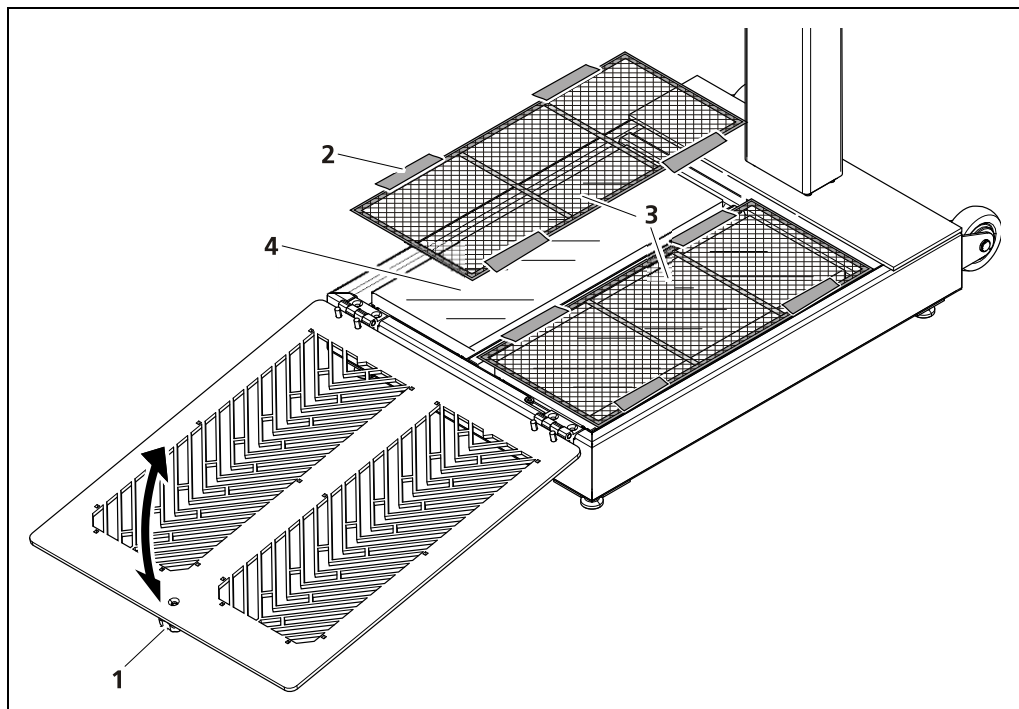

Fig. 43 Cleaning the foot detectors
1. Lift the foot plate (Fig. 43, item 1) at the handle and fold back the foot plate carefully until it rests on the floor.
2. Remove the adhesive tapes (Fig. 43, item 2).
3. Remove both grid foils (Fig. 43, item 2) carefully.
5. Remove the dirt from the protective foil using mild air pressure (Fig. 43, item 4).